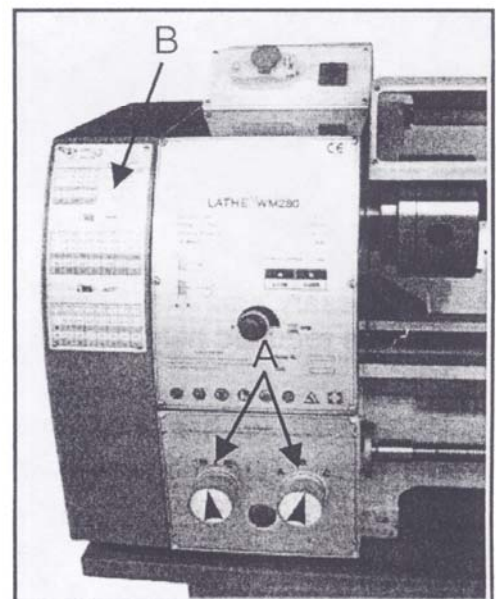

Fig. 8
Set the selector knob (A, Fig.8) to select the feed direction and feed speed. Only available on CQ6125V models. Use the table (B, Fig.8) on the lathe for selecting the feed speed or the thread pitch, Adjust the change gear if the required feed or thread pitch cannot be obtained with the installed gear set.
12. Loosen the locking screw (C, Fig.8) on the quadrant.
13. Swing the quadrant (D, Fig.8) to the right.
14. Unscrew the bolt (E, Fig.8) from the leadscrew or the square bolts (F, Fig.8) from the quadrant bolts in order to remove the change gears from the front.